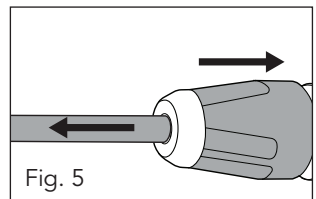

Fig. 5
3. To remove the SDS Max accessory, pull the accessory locking sleeve (2) back towards the body of the demolition hammer, and remove the SDS Max accessory (Fig. 5). Clean the SDS Max accessory shank with a dry cloth after removal.